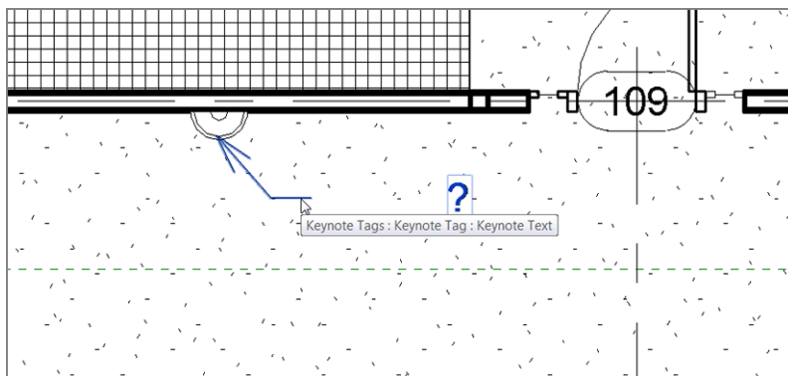

FIGURE 11.86: Placing the leadered keynote
5. Pick the wall sconce shown in Figure 11.86.
7. Pick a third point to place the keynote text (see Figure 11.86).